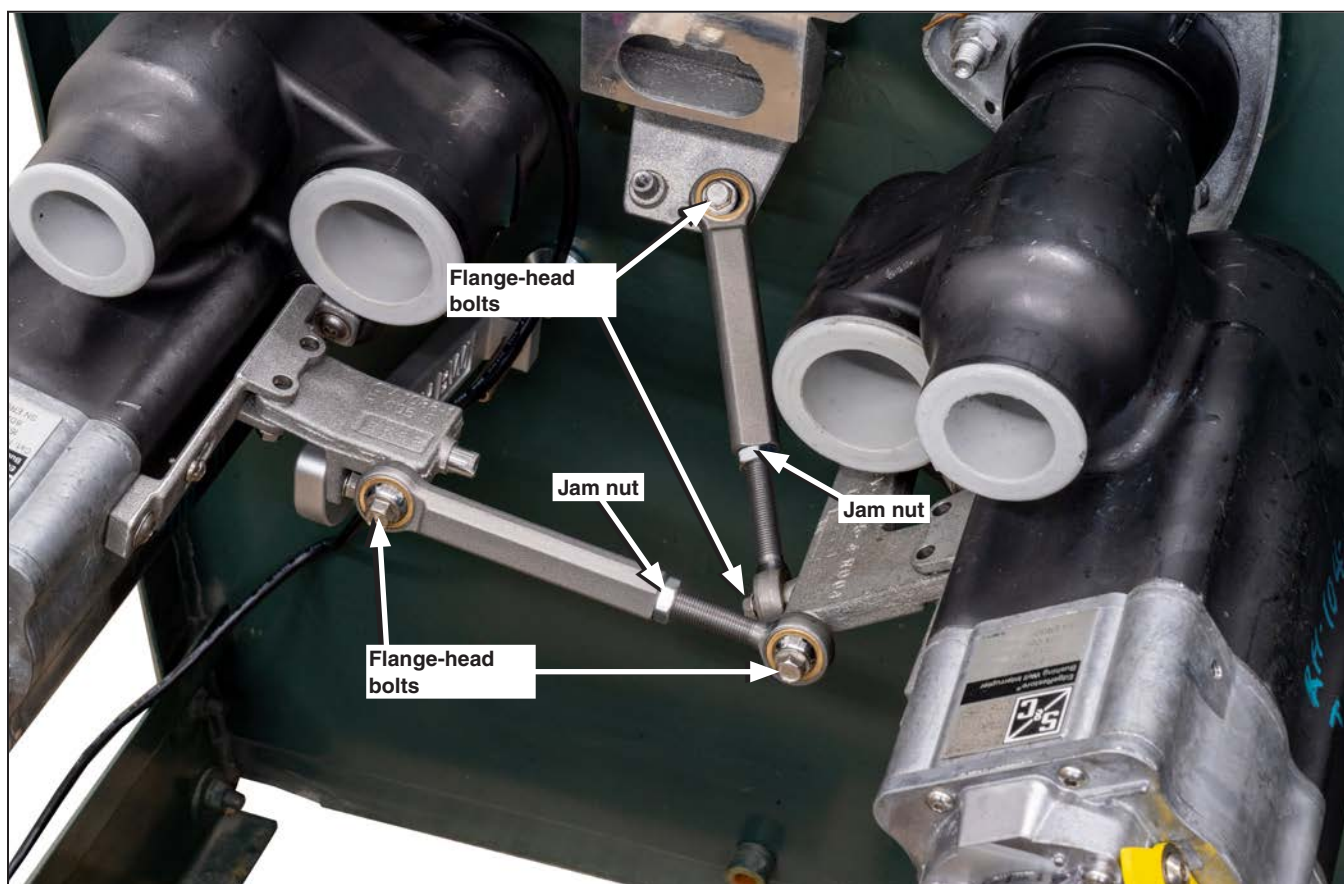

Figure 27. Tighten all bolts and jam nuts. Jam nuts shown properly tightened.
- STEP 5.** Tighten the two jam nuts, one on the adjustable link and one on the cross-brace link using the $\frac{9}{16}$ -inch combination wrench hand tight. See Figure 27.